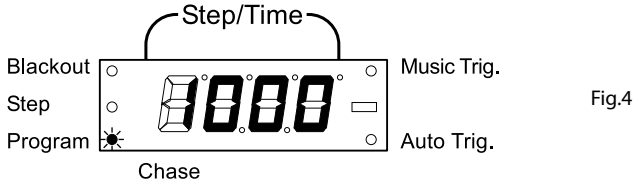

Fig.4
1. Press and hold the **[PROGRAM]** button for 3 seconds (fig.4).